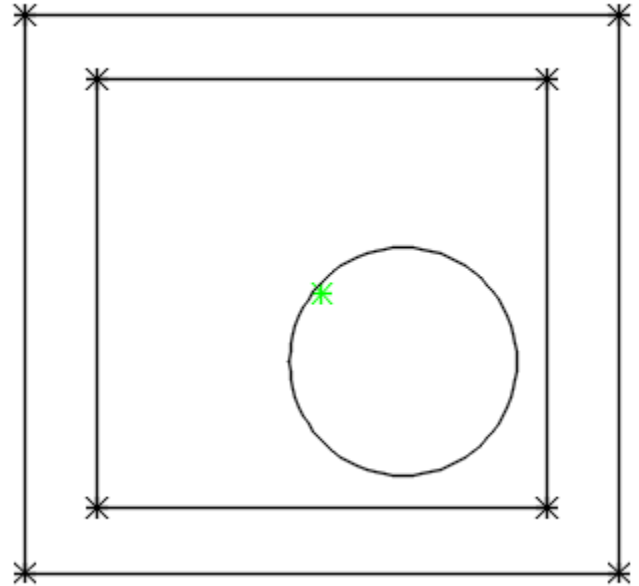

Figure 16
37. Click a point to define the radius of the Profile you should see something like Figure 16